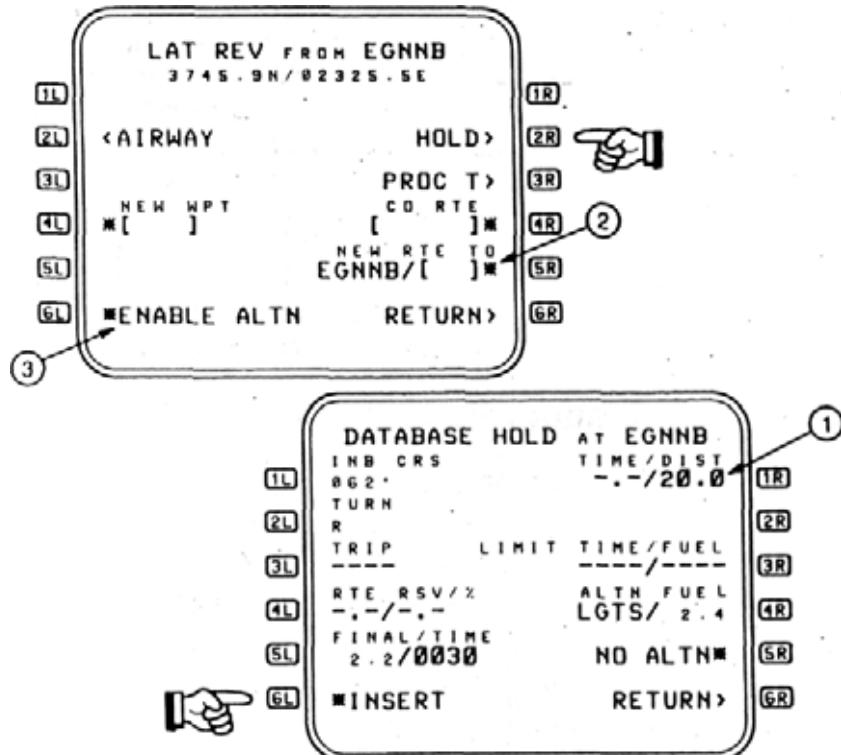

Figure 2-140
For example, 20NM legs have been requested and approved from ATC ((1), Figure 2-140). Pressing LSK **6L**, inserts the change into the flight plan. Notice also that the published hold for EGNNB is the 242 degree radial - INB CRS in the hold is 062 degree.
Referring back to Figure 2-140, (2), the NEW RTE TO field in data line **5R**. The aircraft is presently holding at EGNNB. This field always reflects PPOS as the FROM point, therefore EGNNB/[] is displayed.
Referring back to Figure 2-140 , (3), notice the prompt *ENABLE ALTN. This function is used to incorporate the alternate portion of the flight plan into the primary flight plan. See ENABLE ALTERNATE.